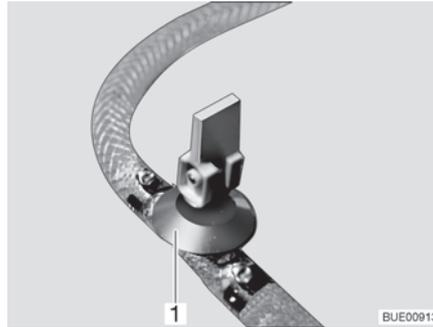

Fig. 190 Drain cock (with rocking lever)
- Close all drain cocks. In order to do this, position the rocking lever of the drain cock (Fig. 190,1) horizontally.